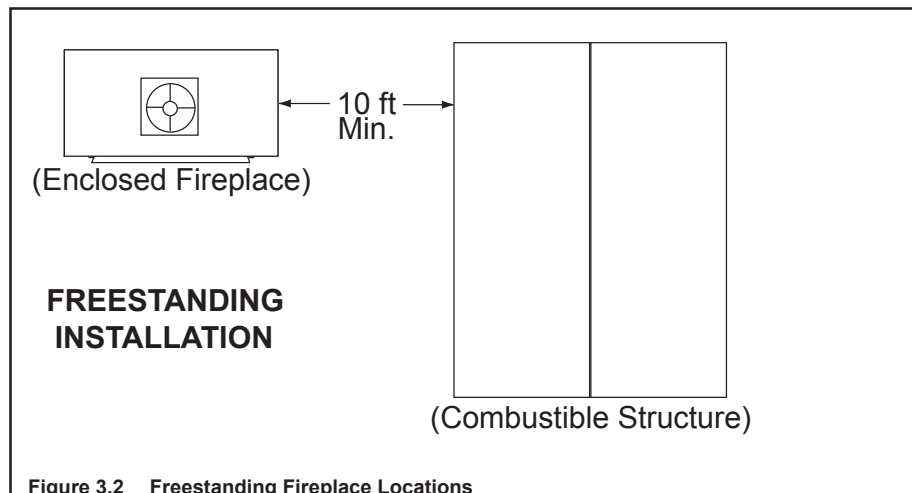

Figure 3.2 Freestanding Fireplace Locations
• Freestanding Installations (see Figure 3.2)
- Minimum overall straight height is 10 ft If the fireplace is freestanding and a minimum of 10 ft from a combustible structure. See Figure 3.2.